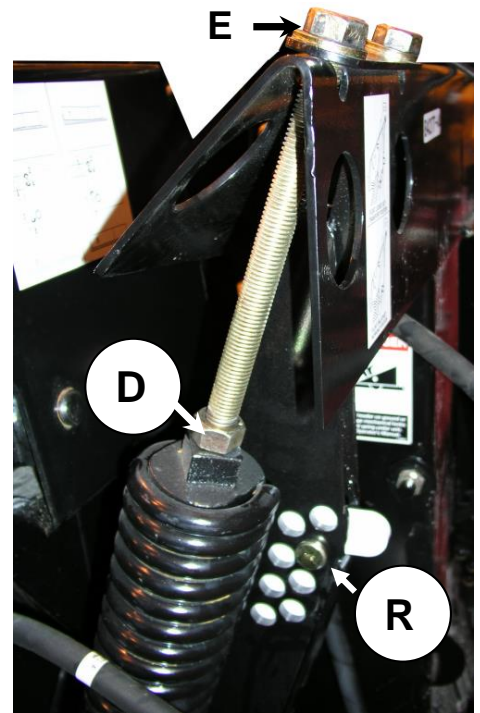

Fig.3 Float Engaged
- Place adapter float lock in down position (float engaged see Fig.3) on both sides of adapter.
- Inspect distance at (F) between float arm (G) and down stop (H).
- Ensure adapter float is engaged (**R**) (**Fig.3**) on both sides of adapter.
- Engage float by lowering float lockout bracket (**R** - See Fig.3).